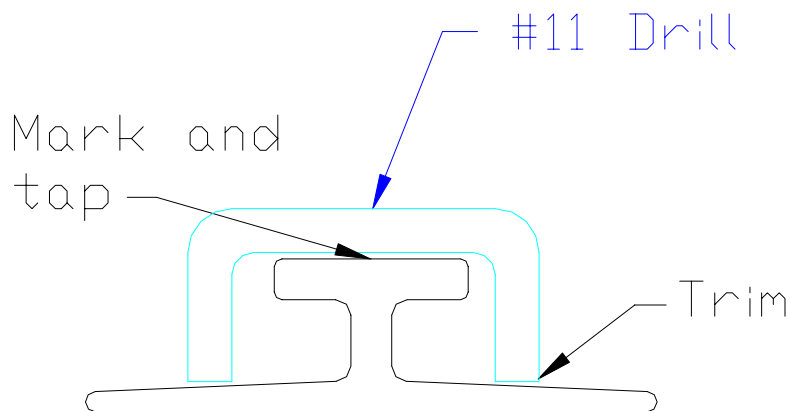

Figure 22.3.5
- 11) Slip four SA-35's over the ends of the rail and butt them up against the backs of the seat frames. Drill a #11 hole through the SA-35 and just mark the top of the rail. Also put four SA-35's over the front of the rails to keep the seats from sliding too far forward. Drill and mark. Figure 22.3.5.